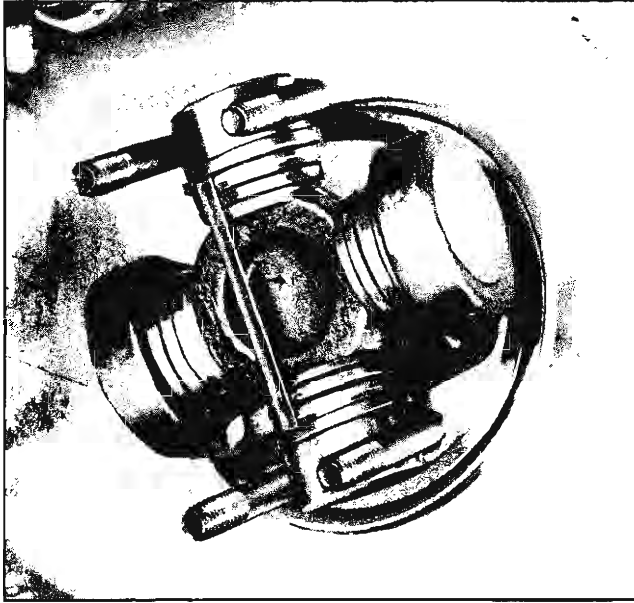

Fig. 3-33 U-Bolts Installed
2. Install axle shaft through backing plate and install U-bolts (Fig. 3-33).